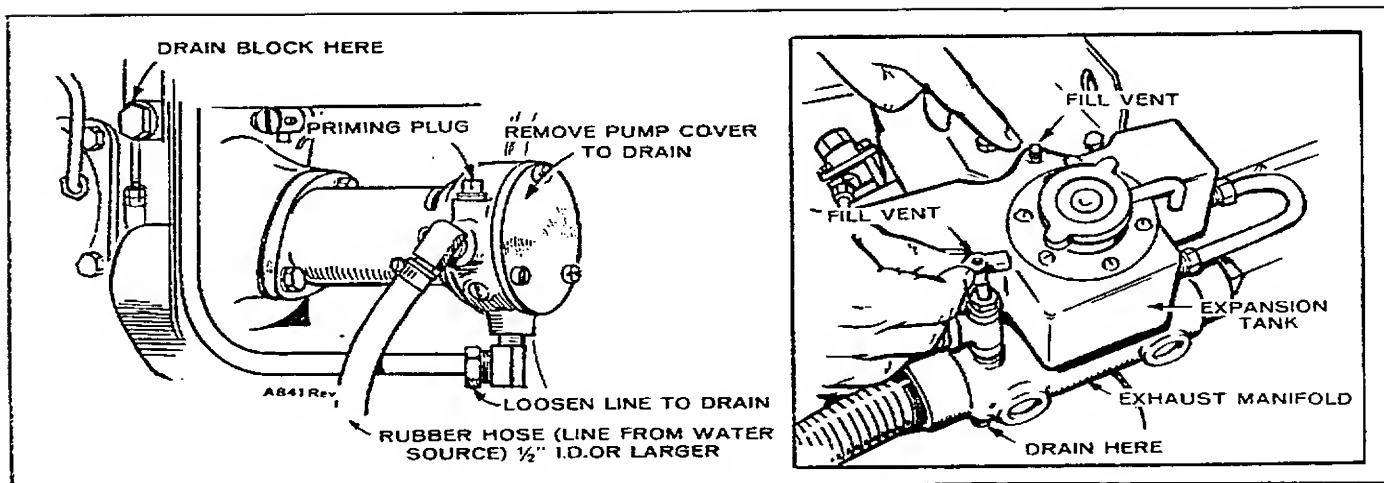

FIGURE 11. FILL AND DRAIN LOCATIONS
**CAUTION** Before filling cooling system remove square head fill vent and open vent valve (turn counterclockwise) on expansion tank. When filled, replace square head plug and close vent valve (clockwise rotation.) If this procedure is not followed heating problems will develop. See Figure 11.
Temporarily remove the plug from the water pump inlet fitting. Figure 11. Fill the pump with water to lubricate and prime it.